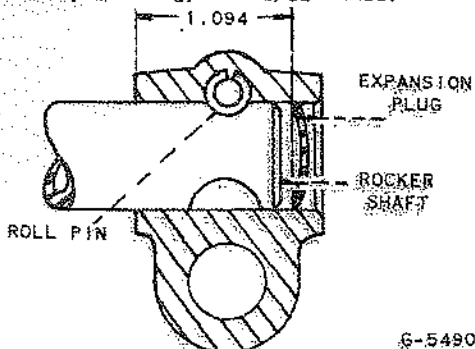
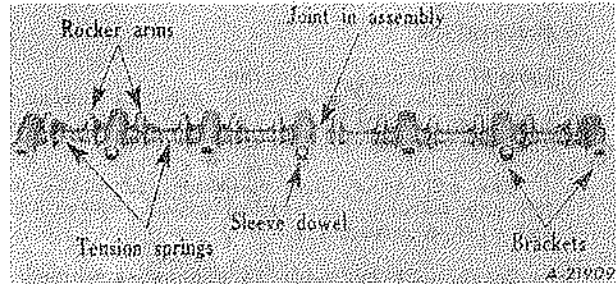

Fig. 5
Fig. 6
3. Remove rocker arm assembly as a unit (Fig. 6).
1. The rocker arm assembly is composed of front and rear shafts joined at the centre, on which are mounted twelve rocker arms and six tension springs (Fig. 6). The shafts are mounted in seven brackets, and are prevented from turning at the two end brackets by means of 5/16 dia. roll pins, Fig. 5. These are inserted downwards into each end bracket and engaged with the small slots in the rocker shafts. This ensures correct location of the oil holes in relation to the rockers. The split in the roll pin should be away from the shaft as shown in Fig. 5.